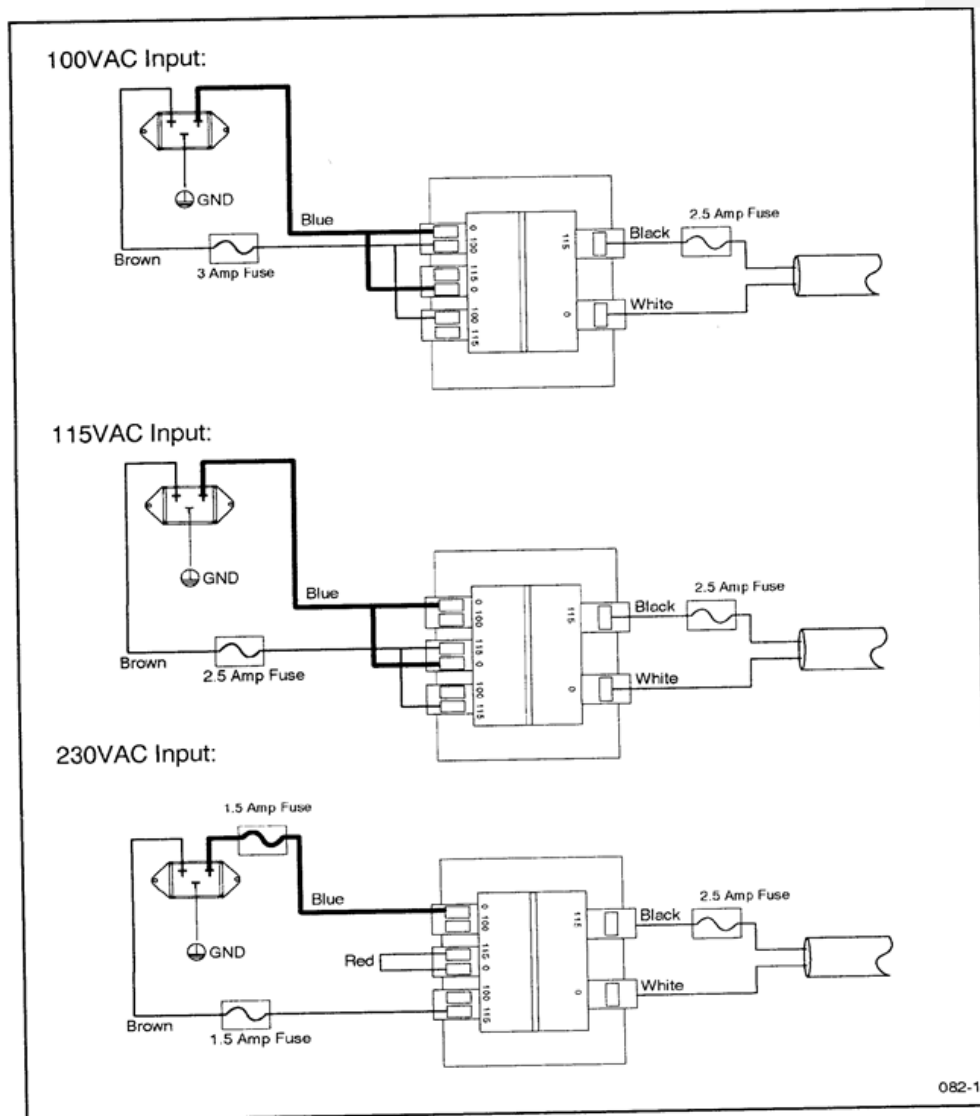

Figure 5-1 Isolation Transformer Voltage Diagrams. (External, Isolation Transformer Box.)
1. Use a screwdriver to remove the (10) 6-32 screws securing the Isolation Transformer Box cover.
3. Figure 5-1 contains 3 wiring diagrams showing jumper configurations. Find the correct diagram for the installation site.
4. Move one jumper point at a time. Pull it straight up off the terminal and push it firmly down on the destination terminal. See Figure 5-1.